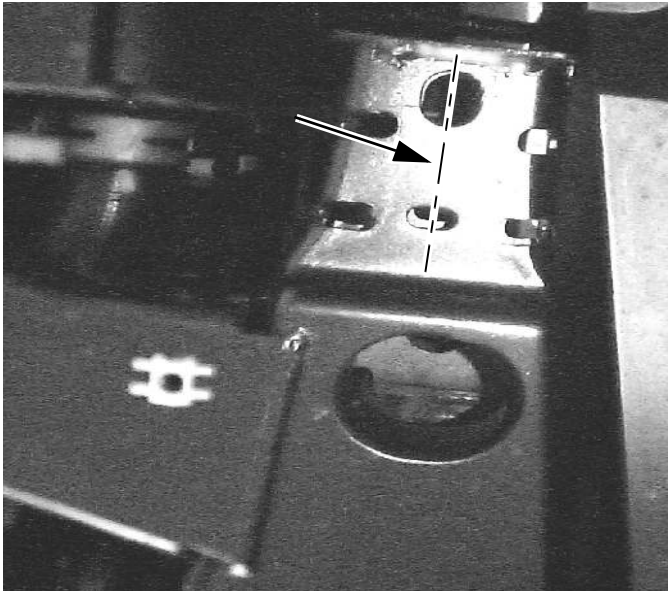

Figure 2
3. Draw a straight line, from front to back, between the two slots located under the front of the frame. Do this for both the Driver side and Passenger side. See Figure 2.